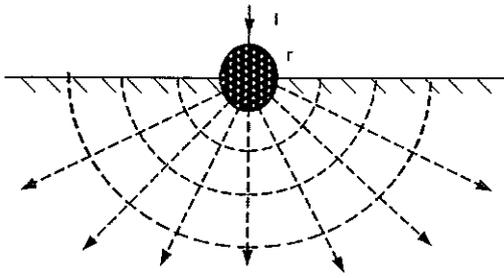
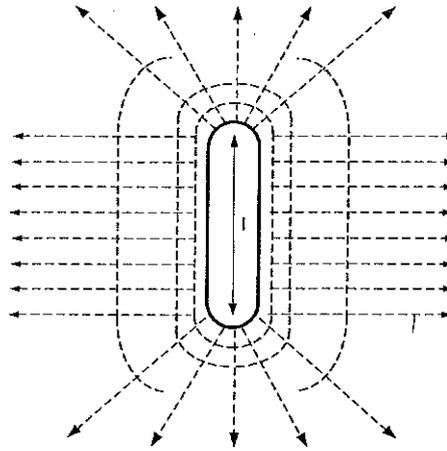

Figure Q4a-Cross sectional elevation
Figure Q4b-Plan
4. a. Horizontal electrodes have special advantage where high resistivity soil has a shallow layer of low resistivity soil above it, such as soil above a rock. Consider a rod electrode of circular cross-section buried horizontally such that hemispherical section is below the soil as shown below Figures Q4a and Figure Q4b.